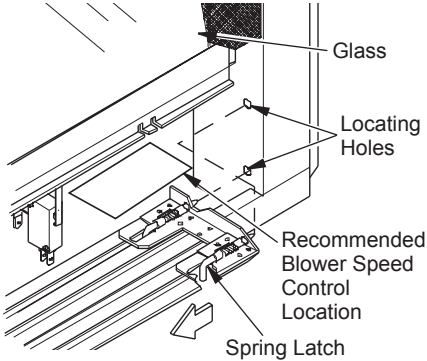
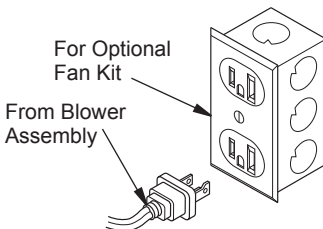

Figure 33 - Removing Louver
Figure 34 - Connecting Blower Accessory to Power Supply
- To remove the louvers, simultaneously pull both top end spring latches towards the center of the appliance until they are disengaged from locating holes. Repeat for bottom spring latches and pull louvers outward. Reverse the procedure to install louvers back onto the appliance (see Figure 33, page 19).
An outlet box with two receptacles has been supplied for your convenience and is located on the lower right side of the appliance (see Figure 34). The variable speed controller is mounted on a magnetic base and may be positioned anywhere within an accessible distance behind the louvered opening (see Figure 33).